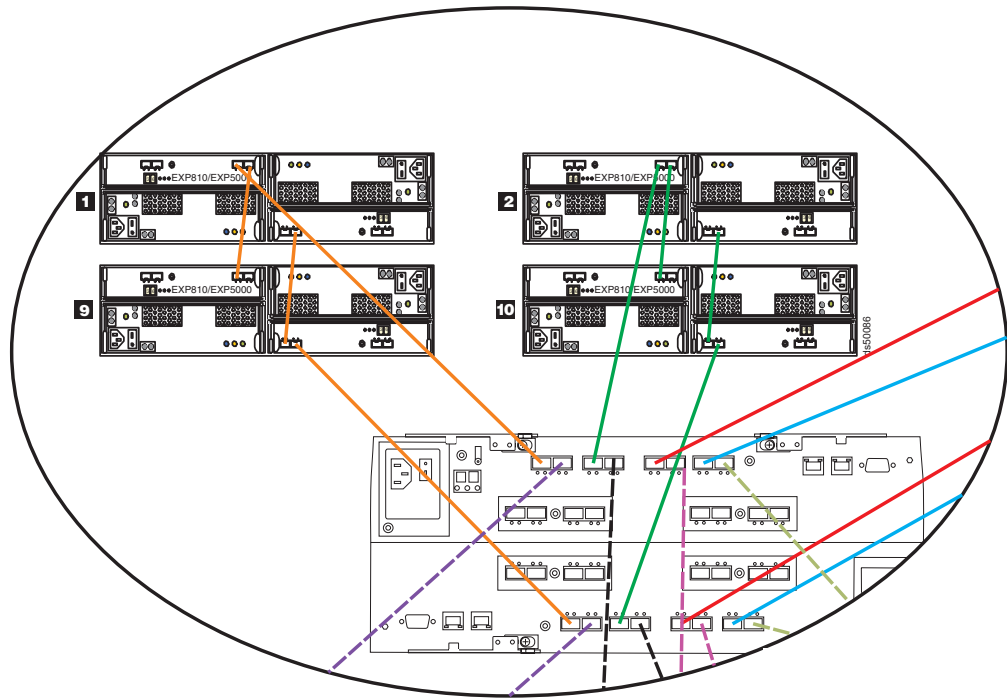

Figure 55. One DS5100 and DS5300 and sixteen EXP5000 storage expansion enclosures
Figure 55 shows the cabling scheme for one DS5100 and DS5300 and sixteen EXP5000 storage expansion enclosures. The figure shows only a cross-section of the cabling scheme.
2. Add the ninth EXP5000 after the first EXP5000 (see 9 in Figure 55.)
3. Connect port 1A on the left ESM of the first EXP5000 (1) to port 1B on the left ESM of the ninth EXP5000 (9).
4. Connect port 1B on the right ESM of the first EXP5000 (1) to port 1A on the right ESM of the ninth EXP5000 (9).
- Connect port 1B on the right ESM of the ninth EXP5000 (9) to port 1 of drive channel 5 on the DS5100 and DS5300.